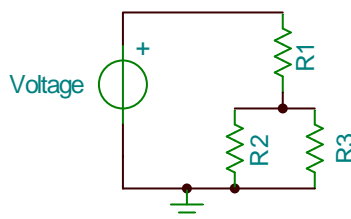

Figure 2. Voltage Divider
- **Build the voltage divider shown in Figure 2 on your breadboard.** Measure (with the DMM) and record the resistance of each resistor before hooking it up to the circuit. Also measure the effective resistance of the R2/R3 parallel combination. You can use the +5V DC voltage from the IDL-800 Digital Lab for your voltage source.